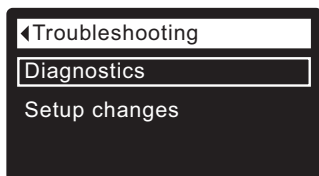

FIG. 89
2. To display the Diagnostics screen from any of the rolling status screens (when an error code is not displayed), press the SELECT (O) button to display the **Main menu**.
4. Press the SELECT (O) button to display the Advanced settings menu.
6. Press the SELECT (O) button to display the Troubleshooting menu (See Figure 89).
1. From any of the rolling status screens, press the SELECT (O) button to display the **Main menu**.
3. Press the SELECT (O) button to display the Advanced settings menu.
5. Press the SELECT (O) button to display the Troubleshooting menu (See Figure 89).
- **Cancel** will return to the Troubleshooting menu (Figure 89).
9. Press the SELECT (O) button.